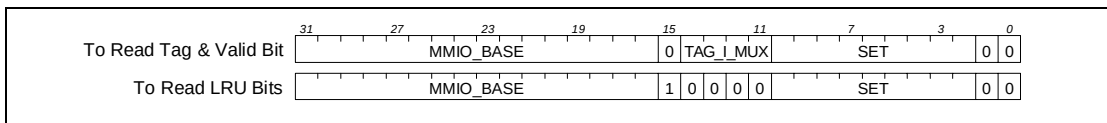

**Figure 5-10. Required address format for reading instruction-cache tags and status.**
**Reading A Tag And Valid Bit.** To read the tag and valid bit for a block in the instruction cache, a program can execute a ld32 operation directed at the instruction-cache region in the MMIO aperture. The top of Figure 5-10 shows the required format for the target address. The most-significant 16 bits must be equal to MMIO\_BASE, the least-significant 15 bits select the block (by naming the set and set member), and bit 15 must be set to zero to perform a tag read. Note that in PNX1300, valid set numbers range from 0 to 63. Space to encode set numbers 64 to 511 is provided for future extensions.
**Reading The LRU Bits.** To read the LRU bits for a set in the instruction cache, a program can execute a ld32 operation as above but using the address format shown at the bottom of Figure 5-10. In this format, bit 15 is set to one to perform the read of the LRU bits, and the tag\_i\_mux field is set to zeros because it is not needed.
Note that the `tag_i_mux` and `set` fields in the address formats of **Figure 5-10** are larger than necessary for the instruction cache in PNX1300. These fields will allow future implementations with larger instruction caches to use a compatible mechanism for reading instruction cache information. The `tag_i_mux` field can accommodate a cache of up to 16-way set-associativity, and the `set` field can accommodate a cache with up to 512 sets. For PNX1300, the following constraints of the values of these fields must be observed: